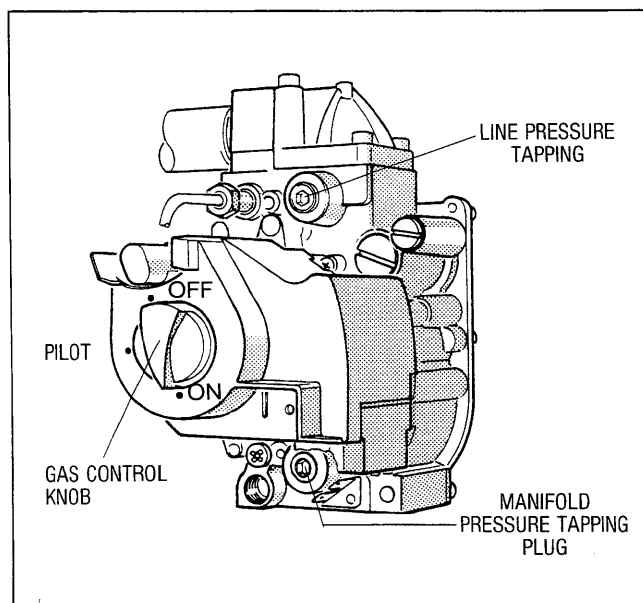

Fig. 17
15. After adjustment, install the capscrew on the gas control, fig. 17.